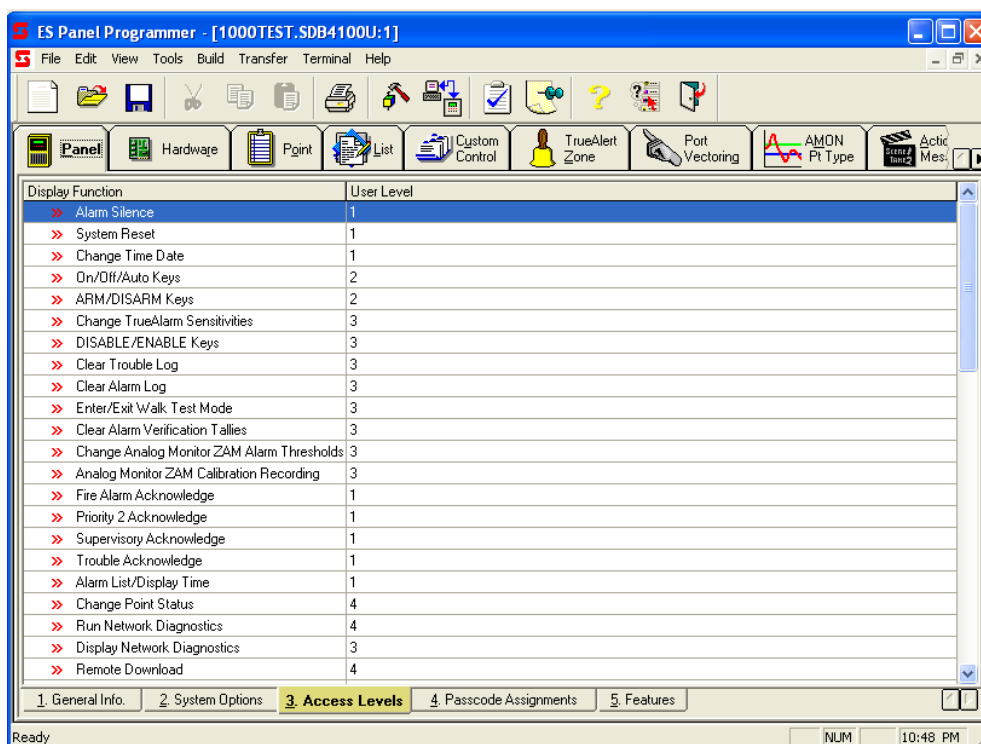

Figure 4-3. Access Levels Screen
2. Click on the **Access Levels** tab at the bottom of the programmer. A screen similar to the one shown in Figure 4-3 appears.